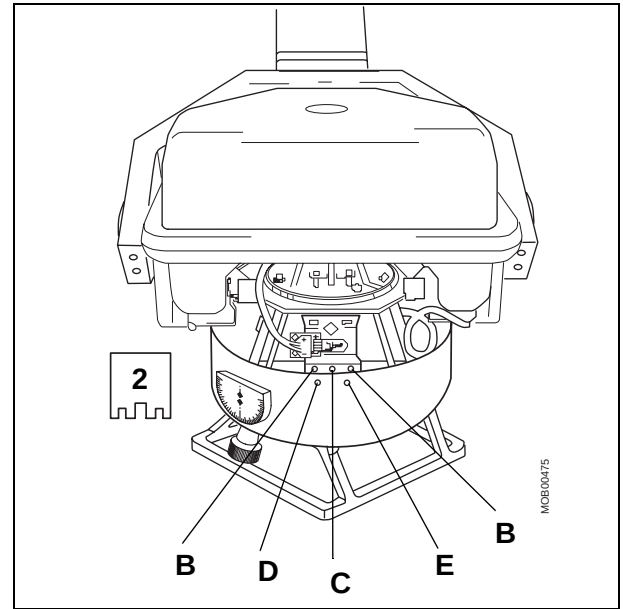

Fig. 2
- Remove the protective plate (2) covering the collimator lamp by loosening, not removing, the screws marked "B" by one turn. Do not adjust screws "C", "D", or "E" (Fig. 2).